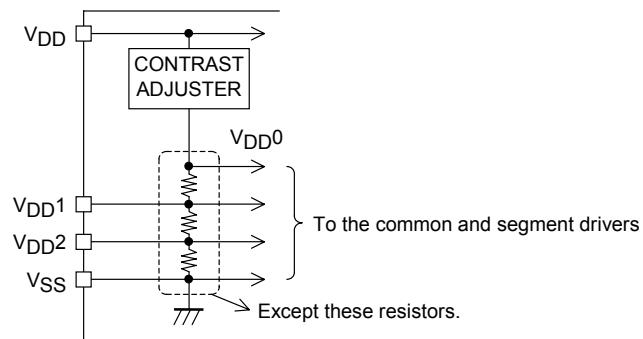

Figure 1
*2 Excluding the bias voltage generation divider resistors built in the V_{DD1} and V_{DD2} . (See Figure 1.)